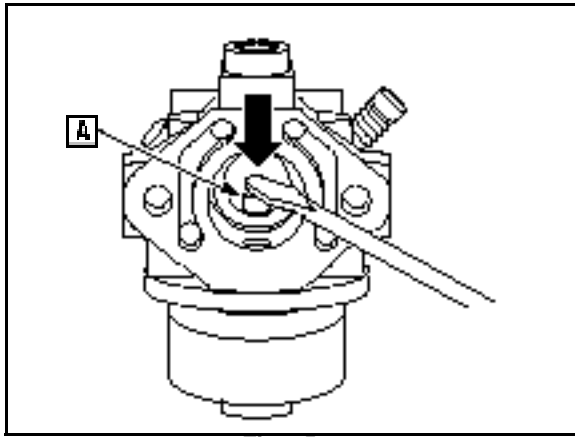

Fig. 75
- Reach into carburetor throat with flat blade screwdriver and gently tap top of stuck emulsion tube until it comes out (Fig. 75).